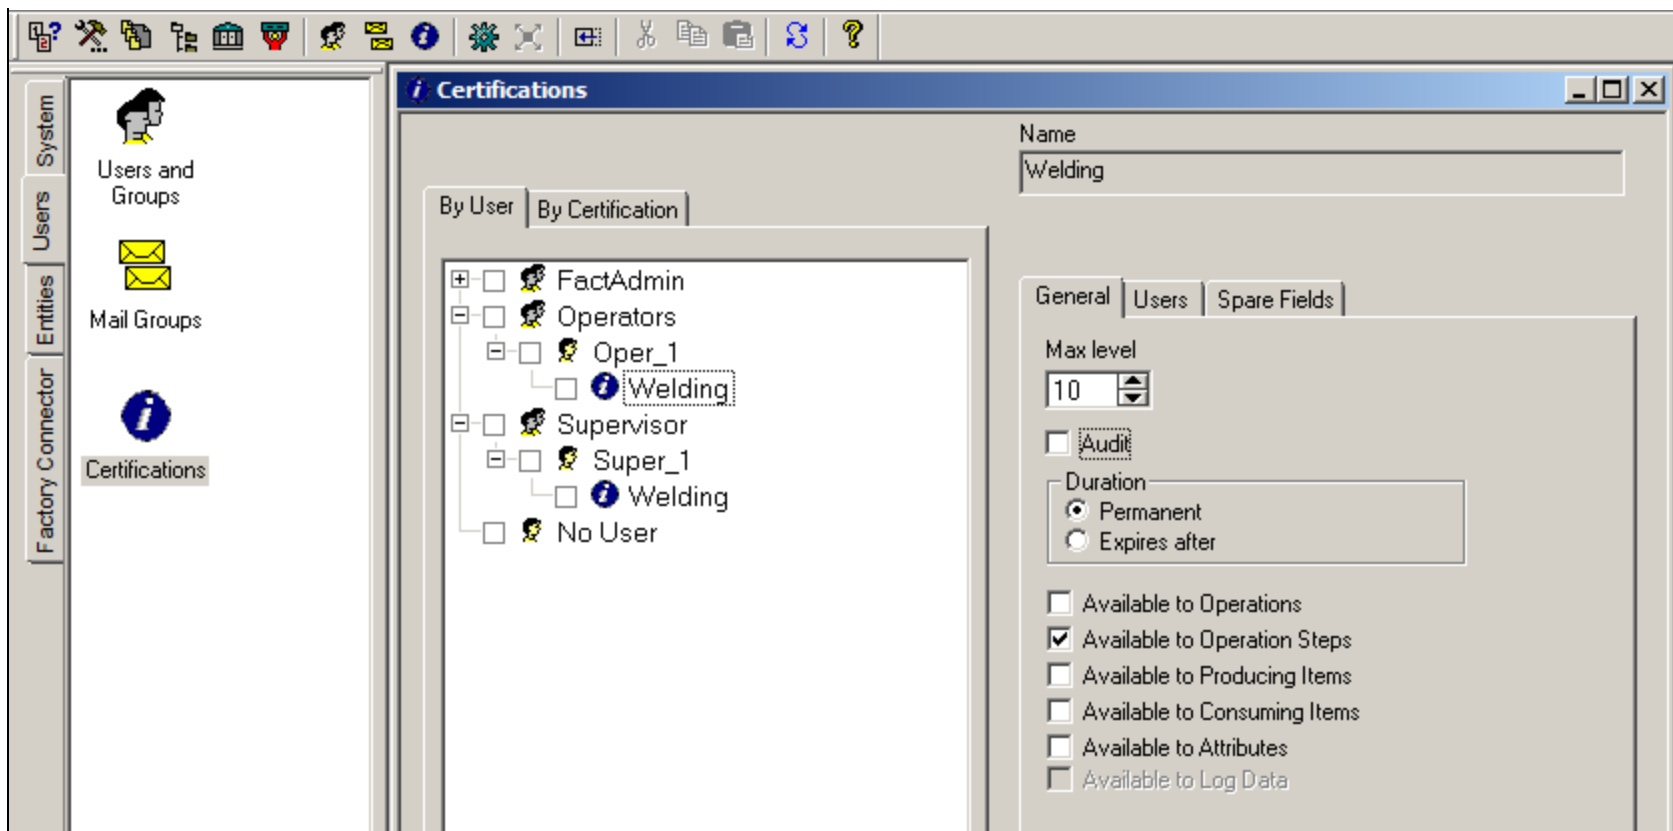

FIGURE 29: UNCHECK THE AUDIT OPTION
1. Using Configurator, by check the **Audit** option (Figure 29 below). The certification is now changed so the user will not be prompted.